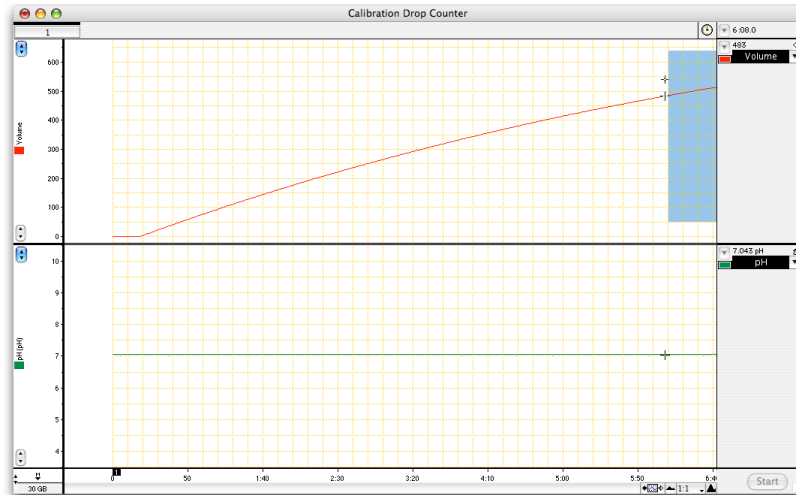

Figure 4. Select the last few seconds of data in the volume channel before proceeding to the Units Conversion dialog.
14. In Chart, **select** the data in the Volume channel that has the endpoint of your calibration (Figure 4).